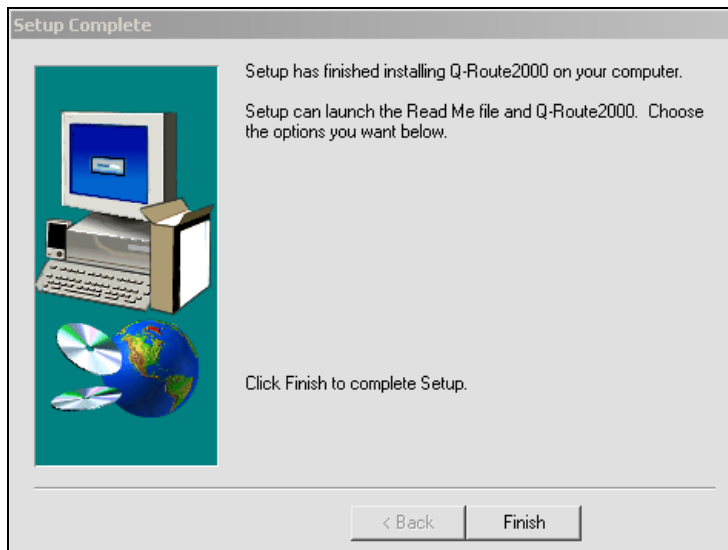
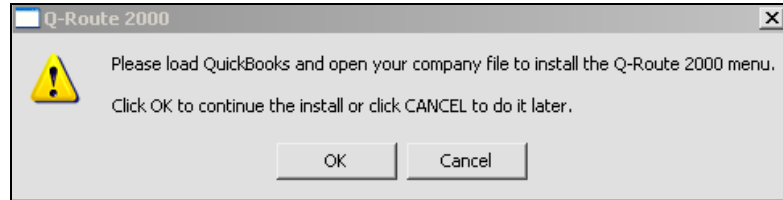

Figure 2.06
Figure 2.07
NOTE: Depending on the speed of your system, *Figure 2.07* above may popup prior to *Figure 2.06*.
2. Click **OK** to the message displayed in **Figure 2.07**.